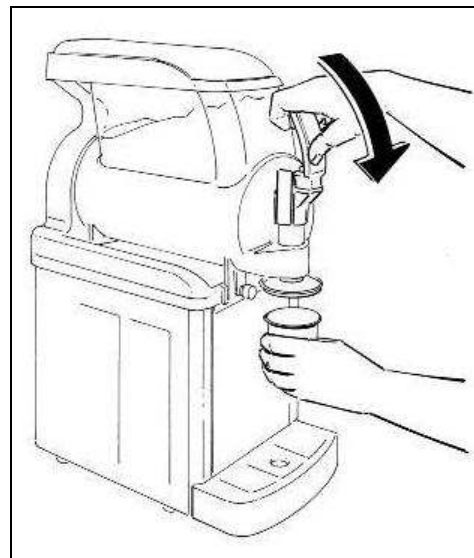

Fig. 8
- Once the desired product consistency is reached, to dispense product it is necessary to position a cup under the tap and lower the lever as shown in figure 8.